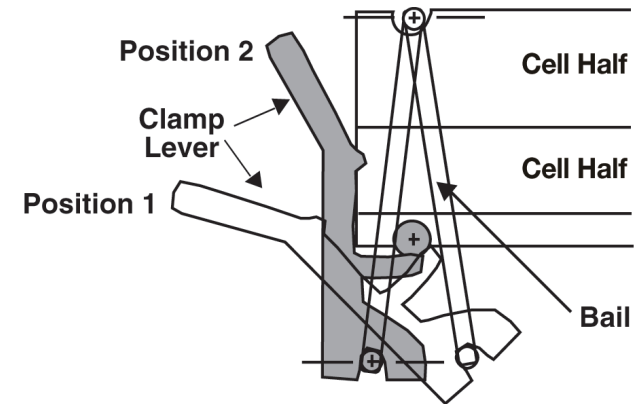

Figure 2. Spectra/Por® MacroDialyzer Snap Clamp and Bail
1. Release the snap clamps. Pull the clamp lever away from the MacroDialyzer body to position 1 (see Figure 2). Then disengage the clamp from the MacroDialyzer. Remove one clamp at a time.
5. To snap the clamps back into position, arrange the MacroDialyzer and one of the clamps as shown in Figure 2, position 1. To do this, slip the MacroDialyzer through the bail and place the bail into the groove on the sample well plate. Slide the notch on the clamp lever into the groove on the underside of the bottom plate.